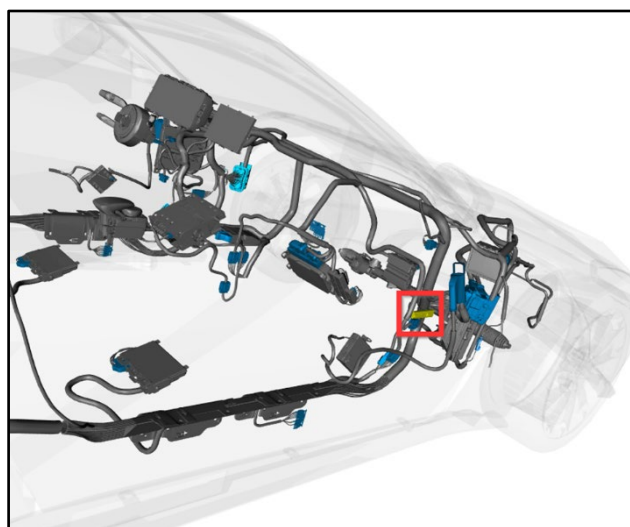

Figure 22
5. **Powertrain CAN** – This header is in the right-side footwell (refer to Figure 22).